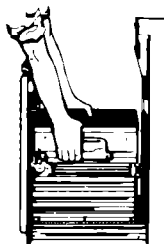

FIGURE 6
- b. Grasp side ridges of the drawer and lift drawer out. See Figure 6.